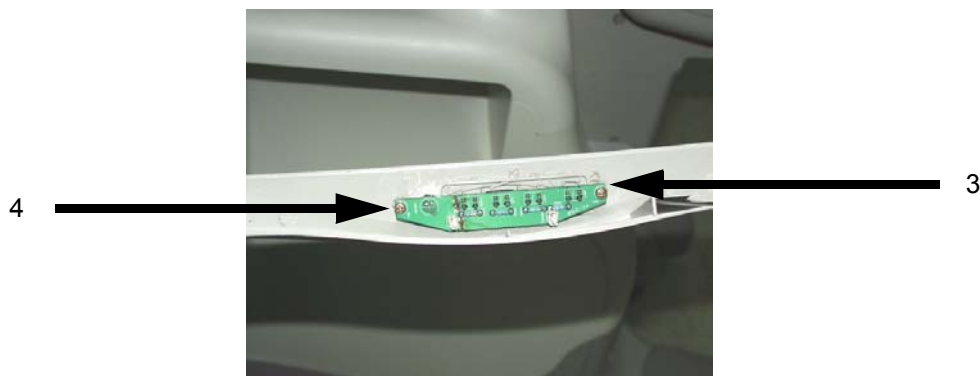

Figure 8-11 Unscrew 2 screws
- 3.) Unscrew two screws (3-4) from the Monitor Cover Front. Refer to Figure 8-11 on page 8-8 .